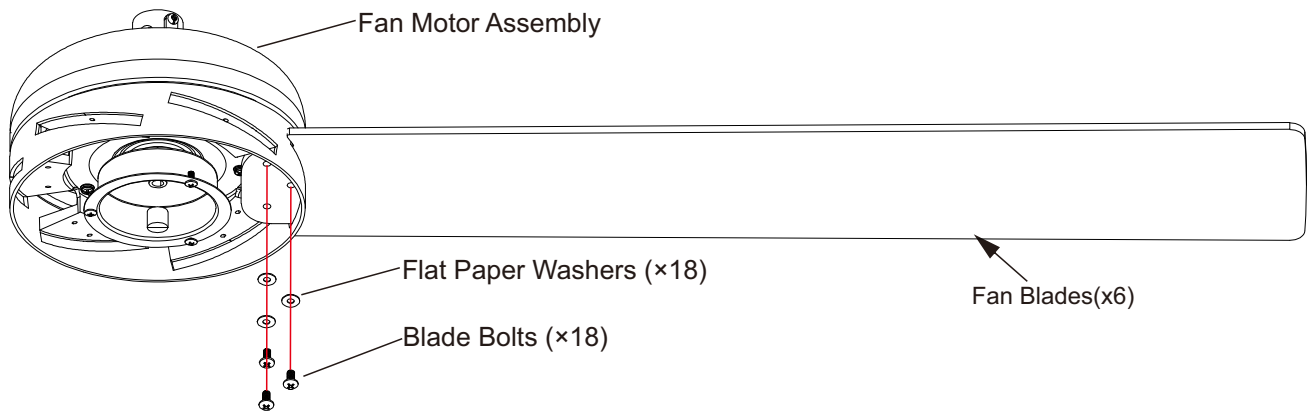

Figure 5
Step 1. Align the holes of the blade with the holes at the bottom of the blade holder disc.(Fig.5)
Step 2. Making sure the blade is straight, attach 3 blade bolts to secure it in place.(Fig.5)
Step 3. Repeat for the remaining blades.(Fig.5)